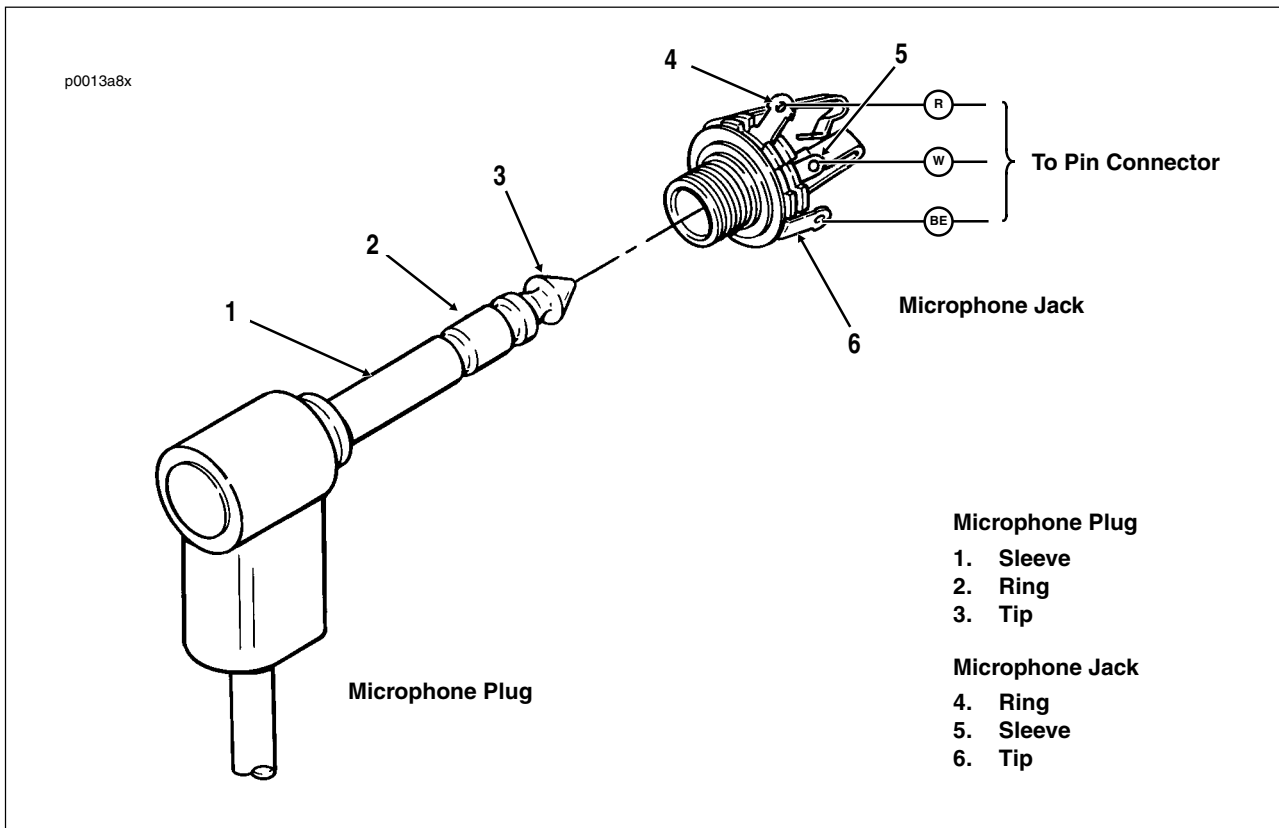

Figure 8-28. Microphone and Jack Connections
1. To verify that Push-To-Talk (PTT) switch is functioning properly, connect probes of ohmmeter to tip and ring of microphone plug. See Figure 8-28.
1. Solder leads to jack terminals as shown in Figure 8-28.